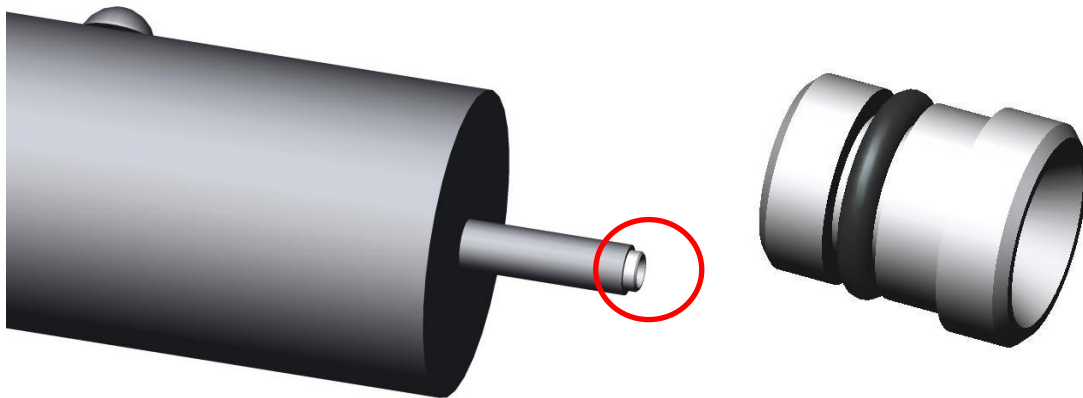

Figure 3: 3077(A) insert part number 3007022
- The second solution is an insert for the 3077(A) neutralizer (part number 3007022) shown in Figure 3 which can be installed in the inlet of the neutralizer. This insert sufficiently alters flow patterns inside the neutralizer such that flow recirculation is avoided. Current 3077(A) owners who wish to use the insert can obtain a free insert by registering with TSI at www.tsi.com/3077kit with the serial number of the neutralizer.